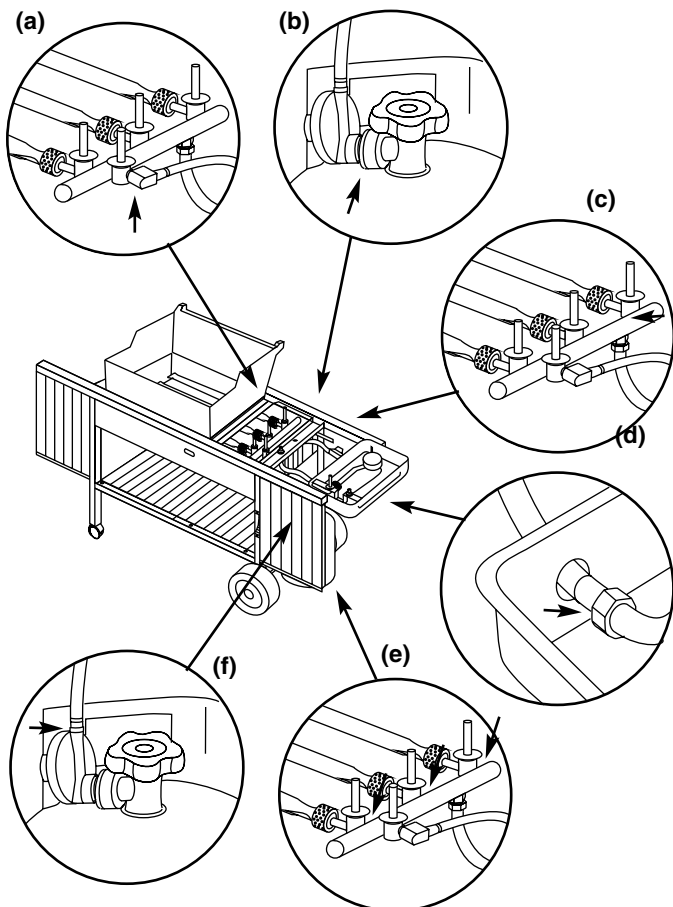

Figure 37
- a) Hose to manifold connection. Figure 37 (a).
- b) Regulator to tank connection. Figure 37 (b).
- c) Manifold to side burner hose connection. Figure 37 (c).
- d) Side burner hose to side burner connection. Figure 37 (d).
- e) Valves to manifold connections. Figure 37 (e).
- f) Hose to regulator connection. Figure 37 (f).